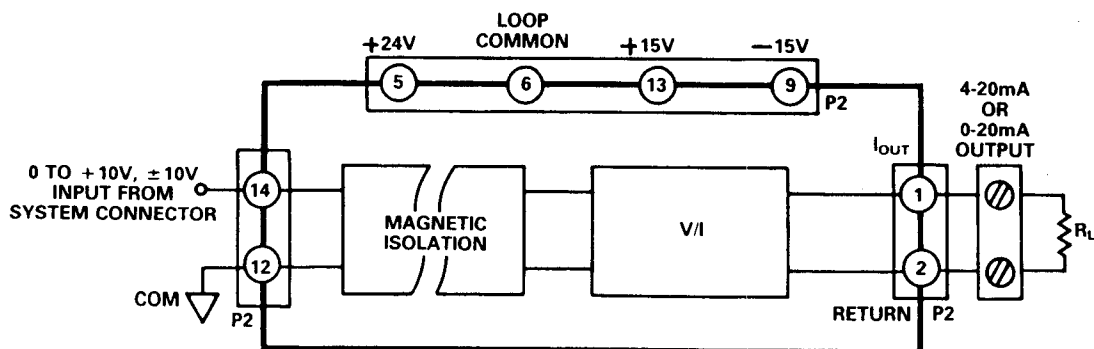

Figure 2.2.1 Model OM3-IVI Isolated Voltage to Current Converter Functional Block Diagram
Figure 2.2.1 shows a functional diagram for the model OM3-IVI isolated voltage to current converter. Each unit is plugged into an OM3 Series backplane, which provides the power for each module. The input signal drives a voltage to current converter through the isolation barrier. Transformer coupling is used to achieve stable galvanic isolation. The current output can be adjusted over a $\pm 5\%$ span range for zero and span with front panel accessible potentiometers. Output protection of up to 220V (130V for the OM3-VI) is provided for the current outputs.
1. Connect the OM3-IVI (OM3-IV) as indicated in Figure 2.2.1 with $R_L = 250\Omega$